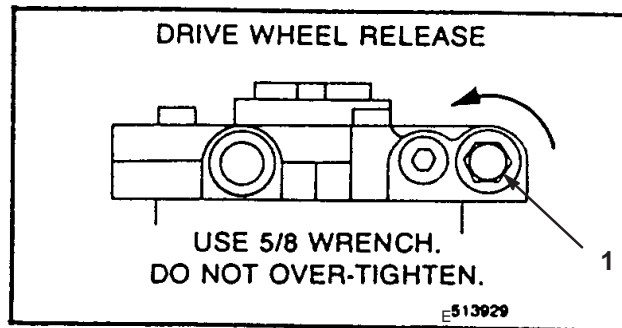

Figure 13
2. Rotate the by-pass valves counterclockwise 1 turn to push. This allows hydraulic fluid to by-pass the pump enabling the wheels to turn (Fig. 13).
1. Rotate the by-pass valves clockwise 1 turn to operate machine (Fig. 13).